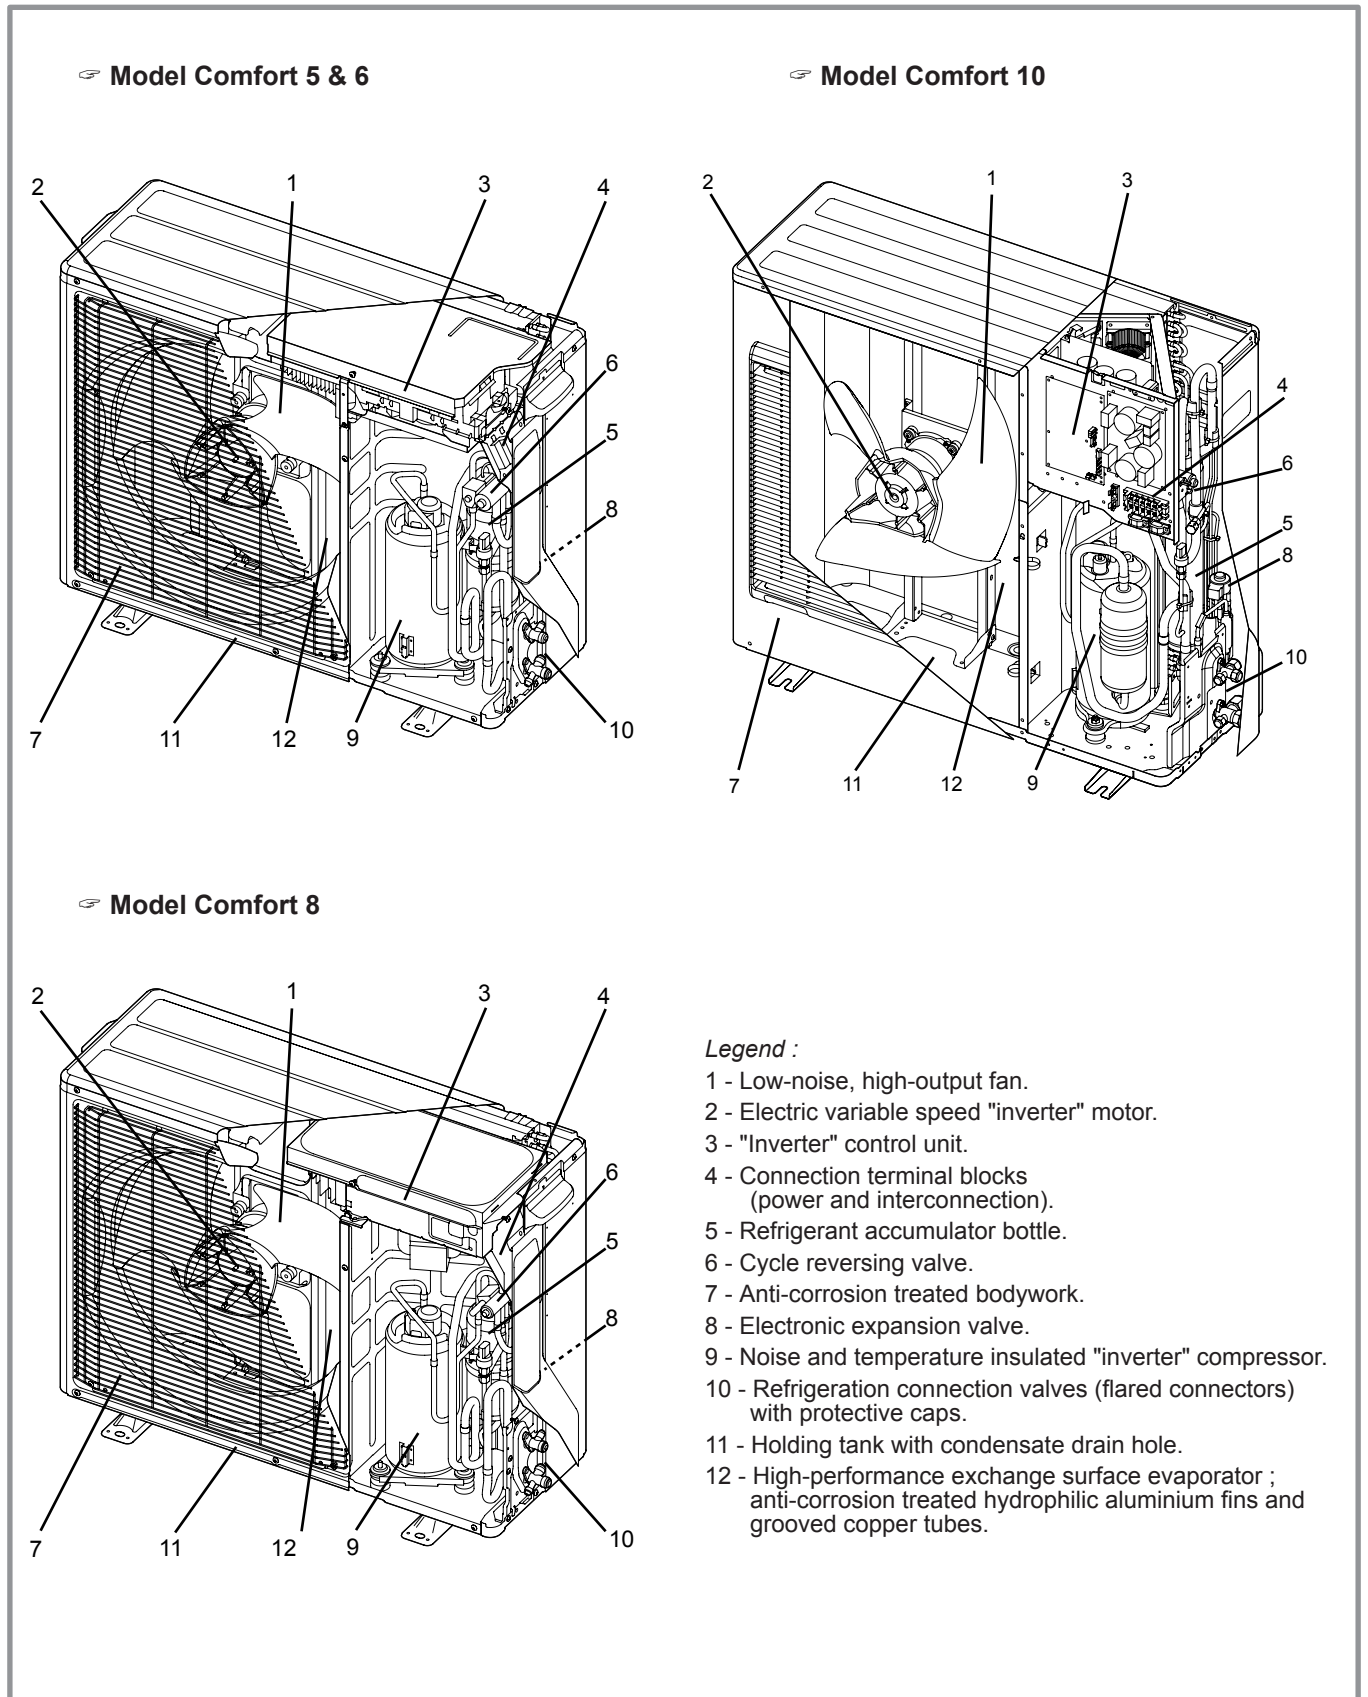

figure 6 - Outdoor unit components
- In the evaporator (ref. 12, figure 6, page 9) :
- In the compressor (ref. 9, figure 6, page 9) :
- In the expansion valve (ref. 8, figure 6, page 9) :